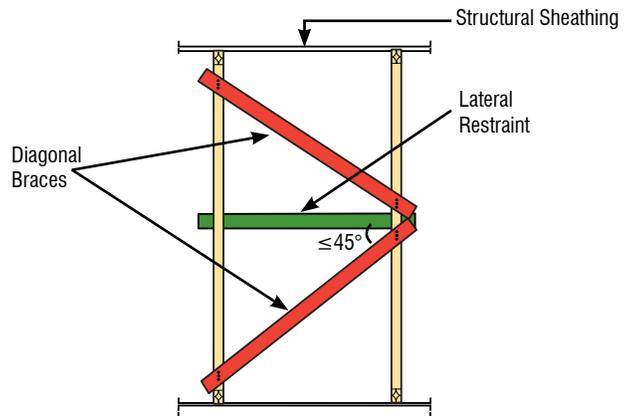
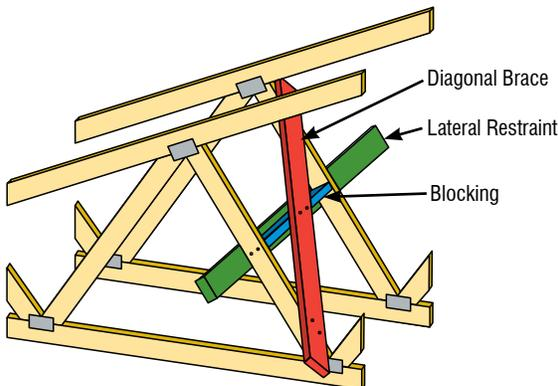

FIGURE B3-19
FIGURE B3-18
- If there are only two adjacent Trusses in which the webs align, Diagonal Bracing and Lateral Restraint can still be used. One option is to attach the single Diagonal Brace to each Web and the Lateral Restraint. This is accomplished by attaching the Diagonal Brace to the opposite side of the web with the Lateral Restraint. Attach the Diagonal Brace near the top of the web of the first Truss and near the bottom of the web of the second Truss. Install dimension lumber blocking, of the same depth as the webs, directly behind the Lateral Restraint and attach the blocking to the Lateral Restraint, Diagonal Brace and each web (see Figure B3-18). A second option is to install two Diagonal Braces. Attach one end of each Diagonal Brace to the web at the permanent restraint location shown on the TDD and attach the other near the top or bottom of the web of the adjacent Truss (see Figure B3-19).